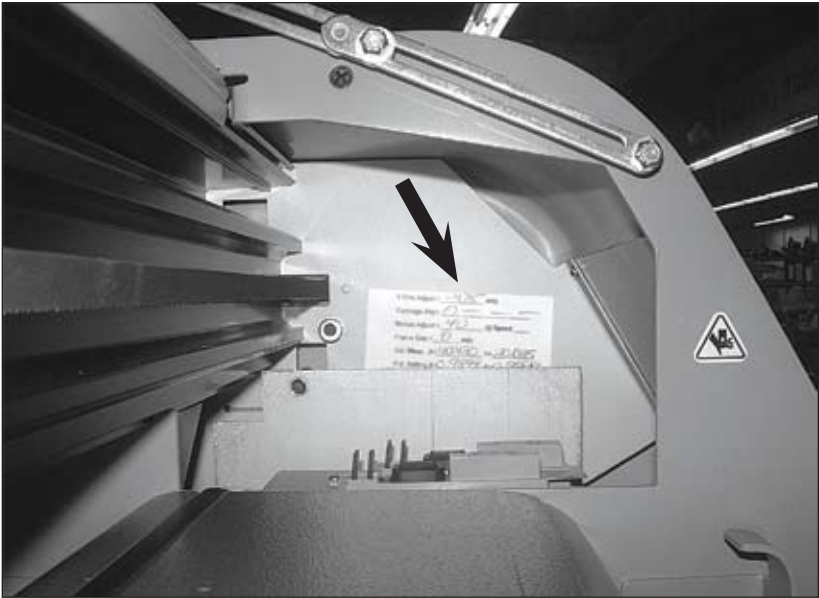

Figure 34. Factory calibration values on the sticker inside the Service Station.
3. Copy the factory calibration values from the white sticker inside the service station (see *Figure 34*.) If no sticker is present, recalibrate the machine using the procedure available in the *FlexJet User Guide*.